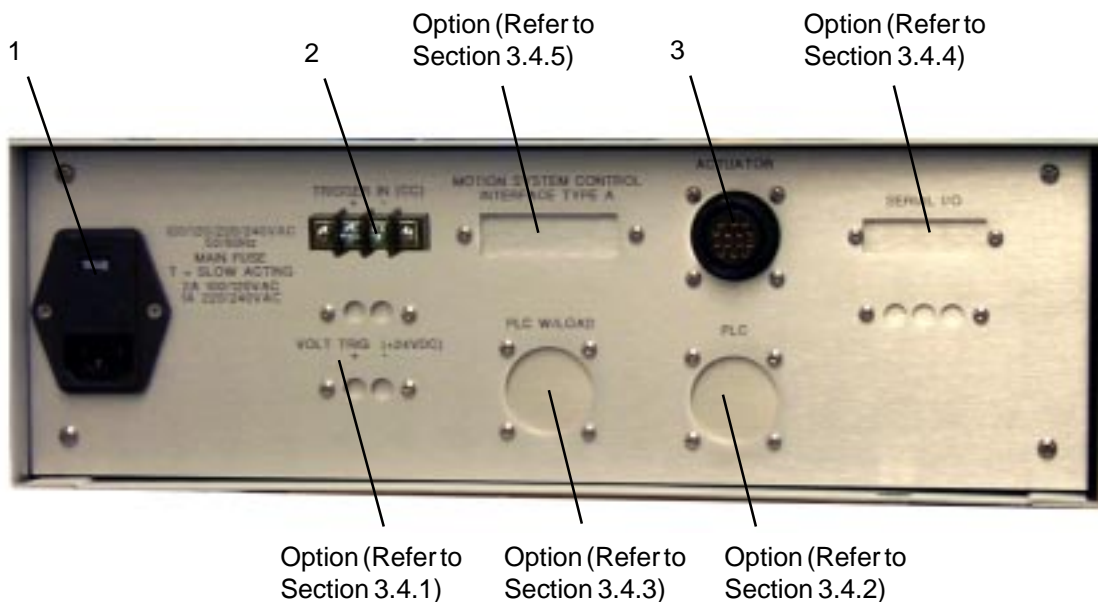

Figure 3.2 Digispense 2000 Controller Module Rear Panel
3.1.2 Rear Panel Detail (Figure 3.2)
3.1.2.1 Power Entry Module (Figure 3.2 Item 1)
3.1.2.2 TRIGGER IN Terminal Strip (Figure 3.2 Item 2)
3.1.2.3 Pump Connector (Figure 3.2 Item 3)